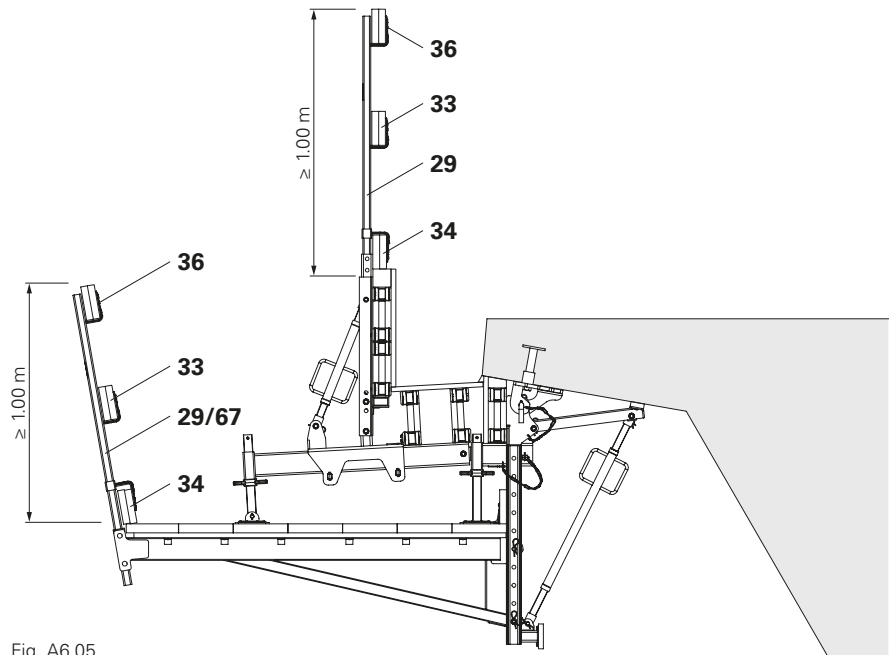
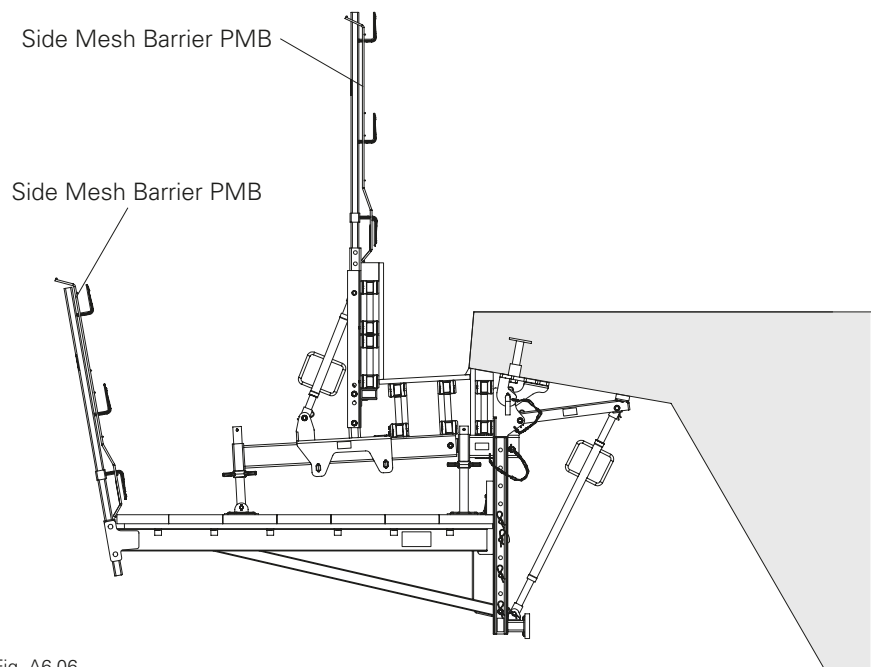

Fig. A6.05
Fig. A6.06
- Fix guardrail boards (33) and toe boards (34) to Guardrail Posts-2 HSGP (29) with wire pins or wood screws (36). (Fig. A6.05)
- Alternatively, Guardrail Post SGP (67) can be fitted instead of Guardrail Post-2 HSGP (29).
- Alternatively, Lateral Protection Barriers PMB can be used instead of guardrails and toe boards. (Fig. A6.06)
- Lateral protection or full enclosure is only possible with the use of VGK Flex with Guardrail Post -2 HSGP (29).
- In case of partial or complete enclosure of the lateral protection or use with Guardrail Post SGP (67), the permissible influence width of the guardrail post may limit the bracket spacing.